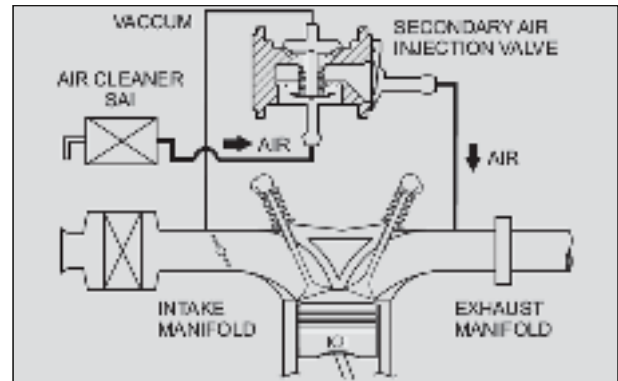

Fig. 4.34
- This is the unit used in exhaust emission control system. The secondary air injection system induces fresh filtered air into the exhaust manifold. Whenever there is negative pressure pulses in the exhaust system, the fresh air will be drawn into the exhaust. This charge of fresh air dilutes considerable amount of hydrocarbons (HC) and carbon monoxide (CO) in the exhaust gasses into carbon dioxide (CO2) and water (H2O). (Fig.4.34)